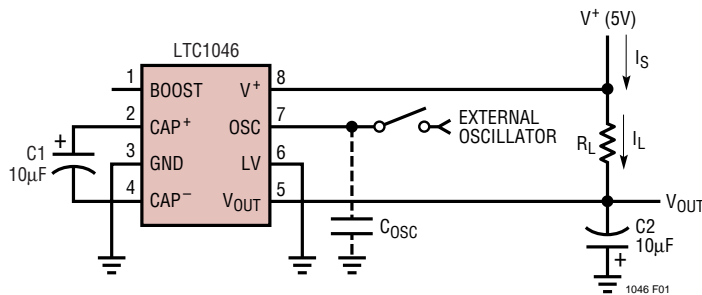

Figure 1
# TYPICAL PERFORMANCE CHARACTERISTICS (Using Test Circuit in Figure 1)
**TYPICAL PERFORMANCE CHARACTERISTICS** (Using Test Circuit in Figure 1)